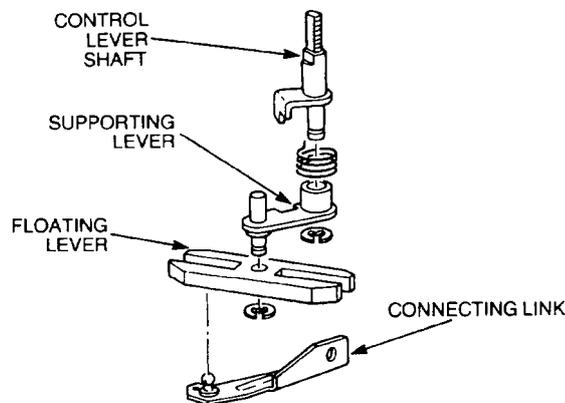

Figure 103 Control Lever Shaft Assembly and Connecting Link
- h.** Inspect the control lever shaft assembly and the control rack connecting link for damage or wear (Figure 103). Replace any part showing excessive wear.